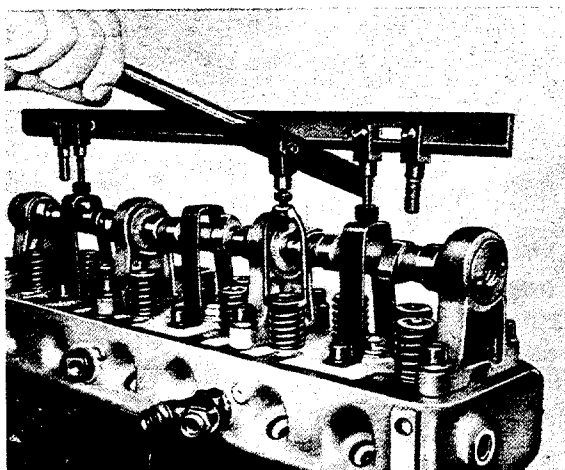

Fig. M 22/1
1. Remove valve cone halves, spring retainers, inner and outer springs and spring supporting ring by means of valve lifter 186 589 02 31 (Fig. M 22/1).